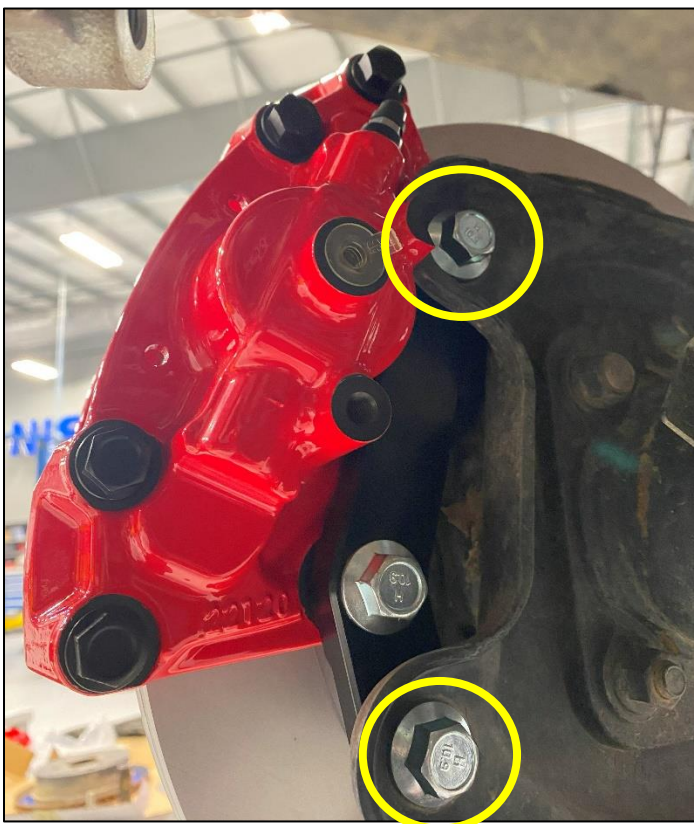

Figure 10
14. Locate the Caliper Bracket Assembly and (2) two M12 x 1.25 Flange Head Bolts, 20mm. Mount the Caliper Bracket Assembly to the Mounting Point and secure with the two M12 Bolts. Torque the M12 Bolts to 63 ft-lbs. *Figure 10.*